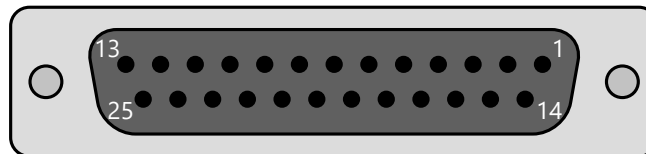

Figure 2: Female DB25 connector pin layout
Step 2: Hold it so you are looking at the pins with them pointing at you. Orient the connector so the row with 13 pins is on top, now the upper left-hand pin is pin 1. See figure 2 (above) for reference. You may also open the case of the connector if using a screw terminal style connector and reference the pin number marking on the PCB.
Step 2: Hold it so you are looking at the pins with them pointing at you. Orient the connector so the row with 13 pins is on top, now the upper left-hand pin is pin 1. See figure 2 (above) for reference.